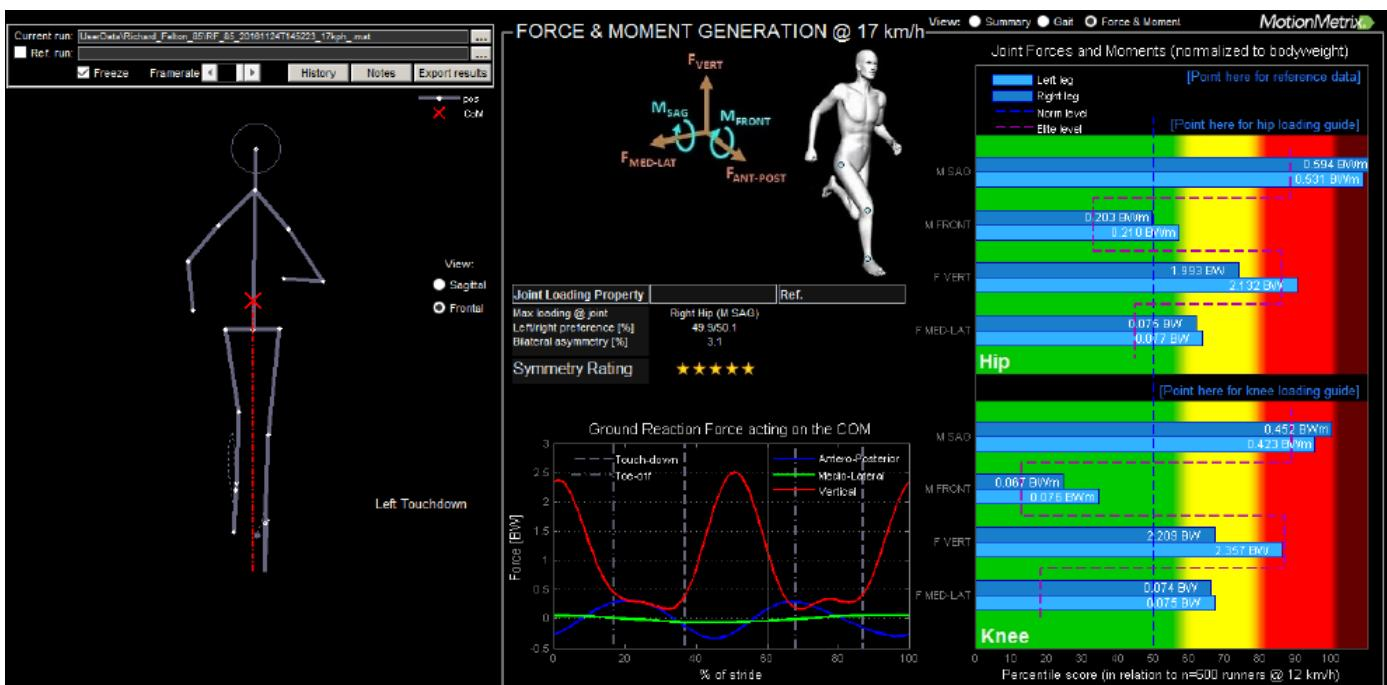

Fig.3 Forces & Moments screen. 3rd page of the Analysis. Assess forces and moments in all 3 planes.
- Vertical Force difference between left and right immediately stands out as being significantly different and showing big asymmetry (**See Figures 3 and 5**)